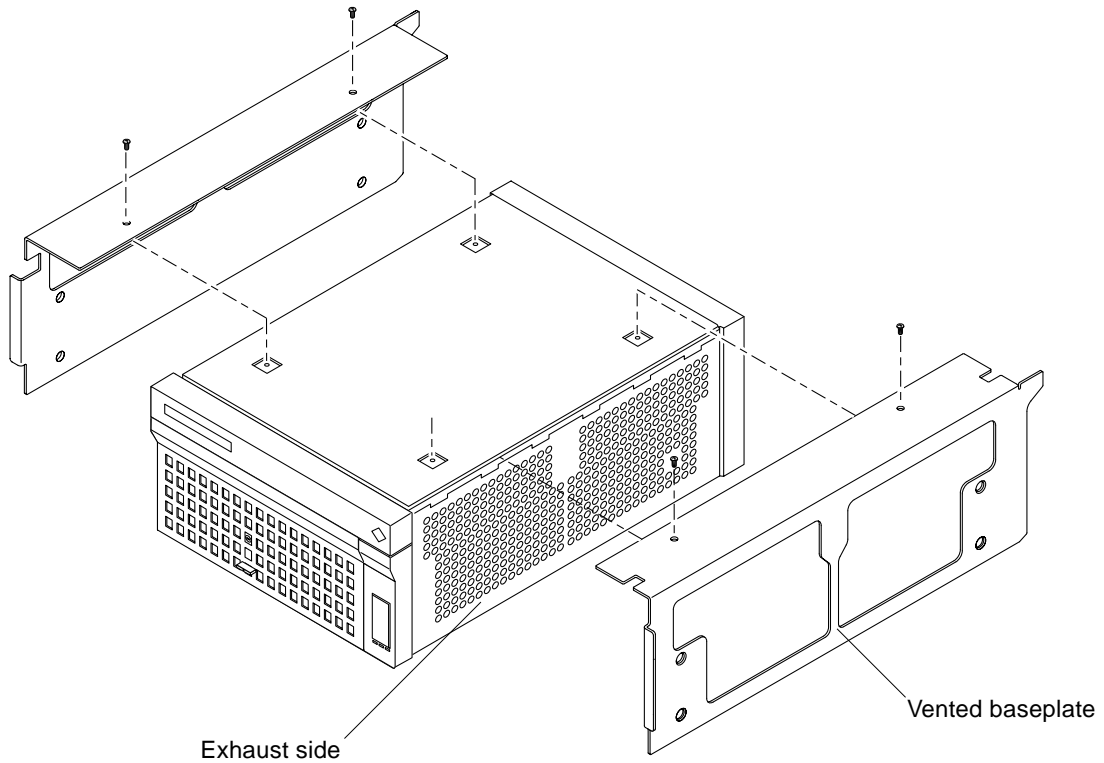

FIGURE 4-3 Baseplate for Sun StorEdge Expansion Cabinet
- For disk arrays being installed in a Sun StorEdge Expansion Cabinet, use the two-part baseplate (FIGURE 4-3).